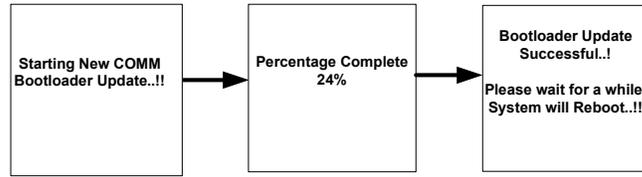

Figure 1-7 Comm boot loader programming screen
- After successful copy of new firmware to USB root directory, the inverter initiates programming of Comm boot loader. Comm boot loader programming status can be seen on DUI screens as shown in Figure 1-7 on page 1-7.